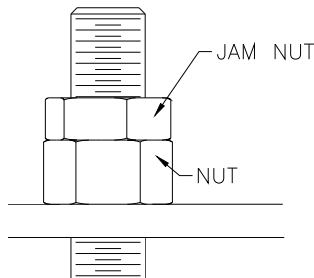

Fig 10-Jam Nut
- 12) Remove the four (4) cross beam sheaves (one sheave from each end). The runway sheave pins do not need to be removed.
- 17) Secure the cables to the top of the column with the nut and jam nut provided, **Fig 10**.